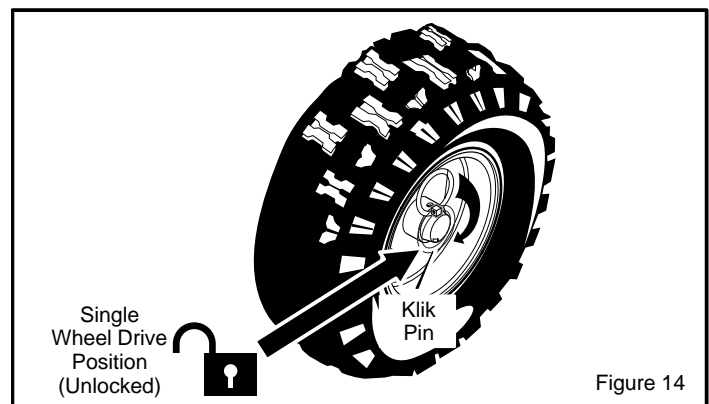

Figure 14
2. For ease of maneuverability when lighter conditions prevail, remove klik pin from wheel locked position and insert into single wheel drive (unlocked) position (Figure 14). Make sure that the klik pin is in the single wheel drive position of the axle only and not through the locked position.